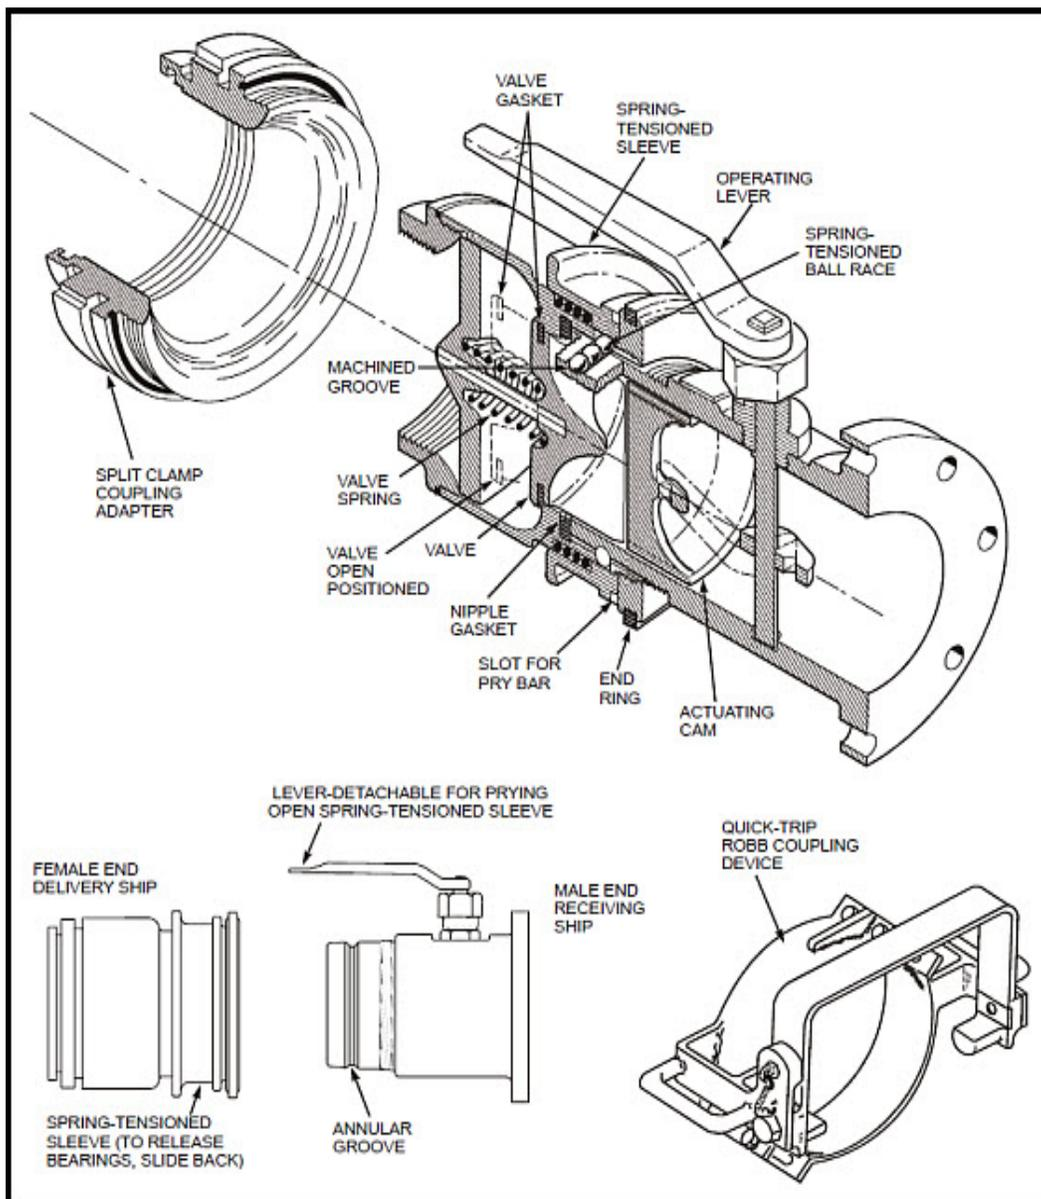

Figure 10-12 Combined quick-release coupling and valve (Robb coupling)
The combined quick-release (Robb) coupling and valve (fig. 10-12) consists of a female end and a male end. The male end, rigged on the receiving ship, is a slightly tapered tube with a flange at one end. Near the other end is a machined groove (1). A spring-tensioned ball race (2) in the female end lines up with the groove and a spring-tensioned sleeve (3) on the outside forces the balls down into the groove, holding the two ends together. When the sleeve is forced back by hand or, as usually is necessary, by pry bars, tension on the ball race is released and the male end can be withdrawn. Slots (4) are cut into the sleeve to permit the insertion of pry bars between the sleeve and the end ring (5).